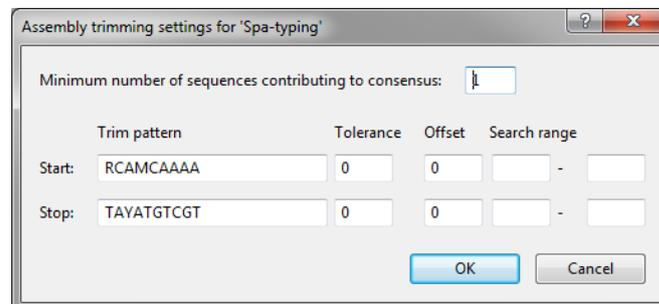

Figure 2: The *Assembly trimming settings* dialog box.
10. Press *<Trimming settings>* to pop up the *Assembly trimming settings* dialog box (see Figure 2).